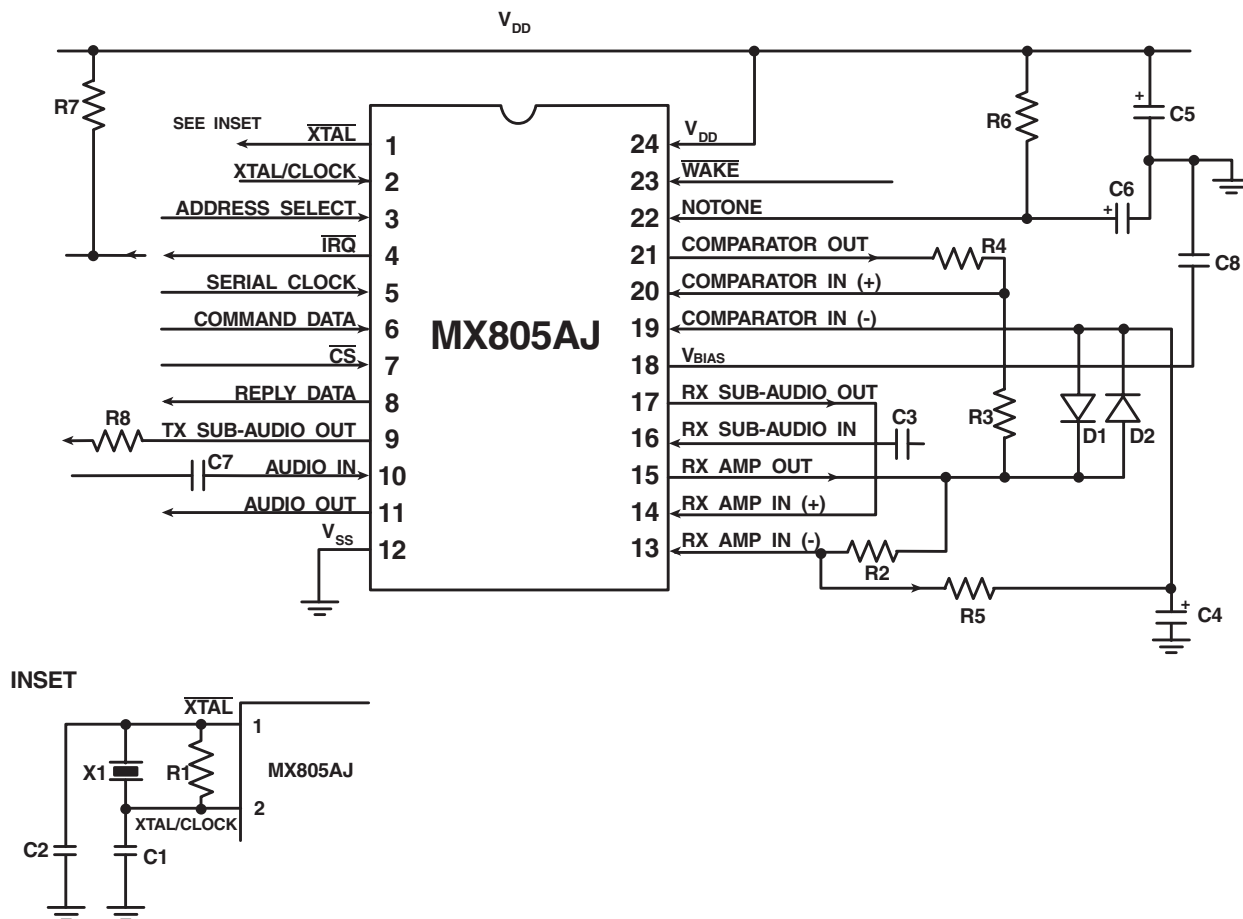
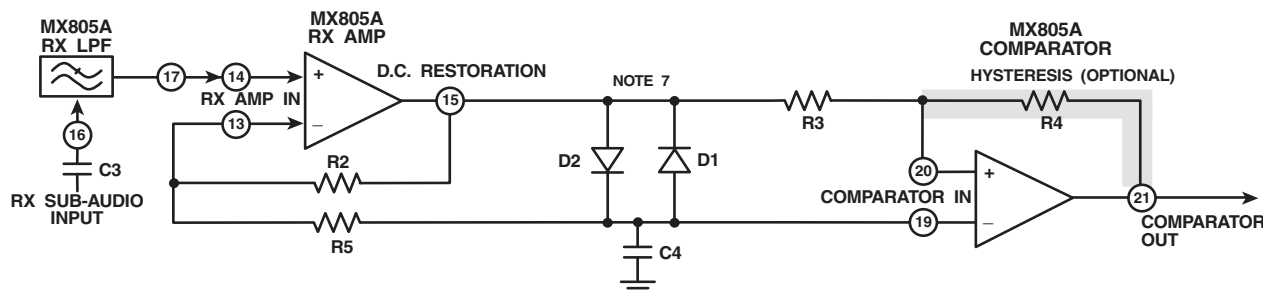
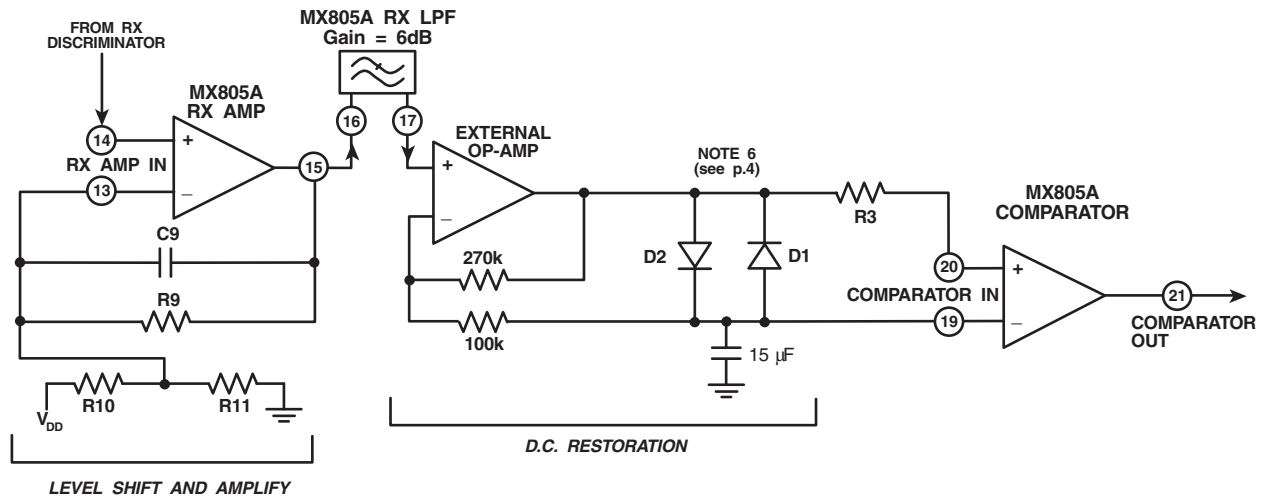

Figure 2: Recommended External Components
Figure 3: MX805A Input Components
Figure 4: MX805A Input Components using and External Op-Amp
| 1 | $\overline{\text{Xtal}}$ | The output from the on-chip clock oscillator inverter. External components are required at this input when a Xtal input is used. See Figure 2. |
| 13 | RX Amp In (-) | This is the inverting input to the on-chip RX Input Amp. (See Figure 2, Figure 3, and Figure 4). |
| 15 | RX Amp Out | This is the output of the on-chip RX Input Op-Amp. This circuit may be used, with external components, as a signal amplifier and anti-aliasing filter prior to the RX Lowpass Filter, or for other purposes. See Figure 2 for Component details. |
| 16 | RX Sub-Audio In | This is the received Sub-Audio (CTCSS/NRZ) input. It is internally referenced to V_{BIAS} . This signal to this pin should be AC coupled or biased. See Figure 2. |
| 18 | V_{BIAS} | The internal circuitry bias line, held at $V_{DD}/2$. This pin must be decoupled to V_{SS} by capacitor C8. See Figure 2. |
| 19 | Comparator In (-) | This is the inverting input to the on-chip 'comparator' amplifier. See Figure 2, Figure 3, and Figure 4. |
| 20 | Comparator In (+) | This is the non-inverting input to the on-chip 'comparator' amplifier. See Figure 2, Figure 3, and Figure 4. |
3. Figure 3 and Figure 4 illustrate alternative input component configurations.
If the on-chip Xtal oscillator is to be used, then the external components X1, C1, C2, and R1 are required as shown in Figure 2 (inset). If an external clock source is used these components are not required; the input should be connected to the Xtal/Clock pin and the $\overline{\text{Xtal}}$ pin unconnected.
Figure 3 shows an input configuration that is generally for use for CTCSS signal and NRZ data reception.
The output resistance (open loop) of the on-chip Rx Amp is $6\text{k}\Omega$. In the configuration shown in Figure 3, the (Rx Amp) RC time constant is therefore 90ms . If this period is too long for some systems, i.e. those using half duplex, short data burst, and external amplifier should be considered in place of the on-chip Rx Amp.
For DC coupling the MX805A to the receiver's discriminator output when using burst mode NRZ communication, it is recommended that an additional, external Op-Amp is employed as configured in Figure 4. This configuration will quickly compensate for sudden shift of DC input bas.